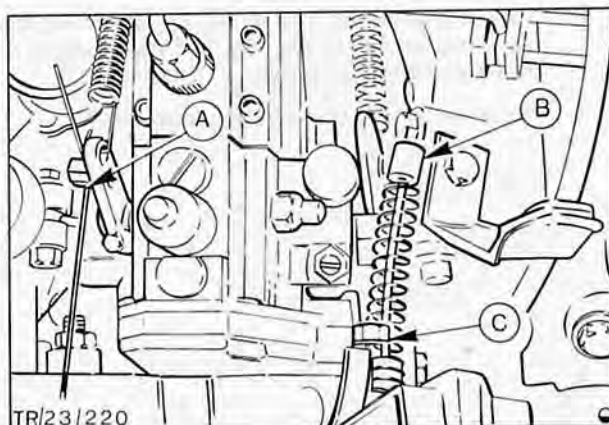

Fig. 42. Pump cable connections
11. Disconnect stop control cable and accelerator cable, remove a single bolt, remove cable and bracket assembly and position clear of pump, Fig. 42.